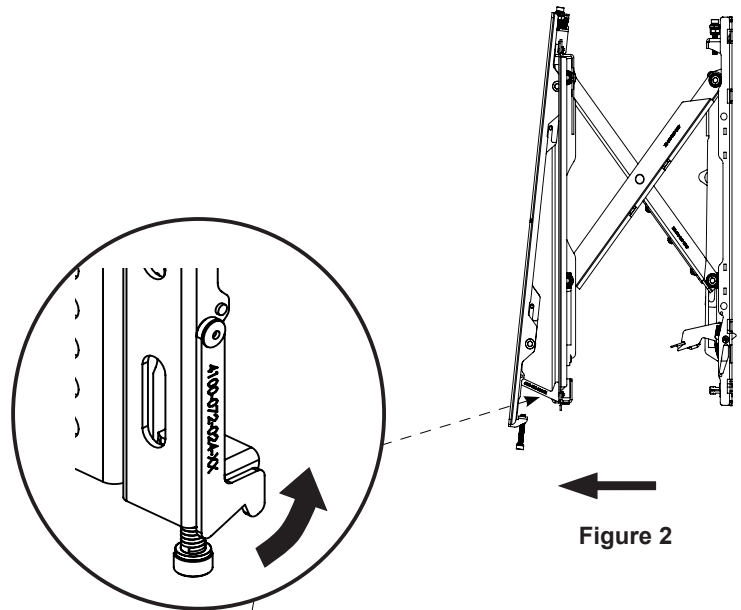

Figure 2
- 1) Slowly pull the front of the PFW 6885 to extend the scissor arms (Figure 2).
- 3) Tilt up the bottom of the flat-panel, then set their kickstands against the bottom tubing of the mount (Figures 2 & 3).